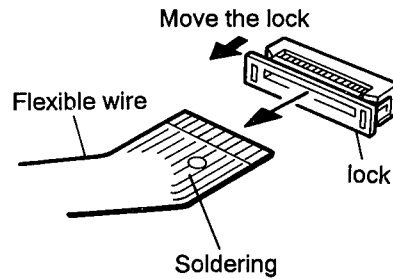

Fig. 4-11
6. Disconnect the flexible wire connected to the connector on the CD mechanism control P. C. board (See Fig. 4-11).
CAUTION: Whenever the flexible wire is disconnected, be sure to remove the soldering in advance as shown in Fig. 4-11. Otherwise, the CD mechanism assembly can possibly be damaged.